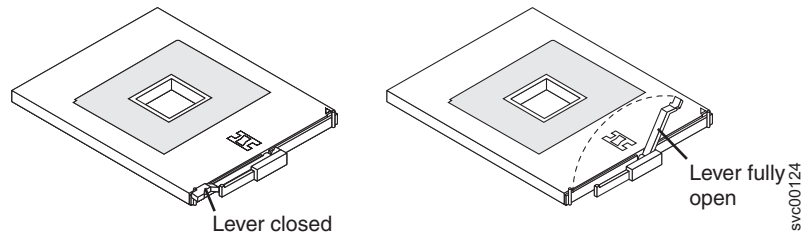

Figure 126. Microprocessor with arm locked and fully opened
7. Rotate the microprocessor socket lever arm upward to its maximum vertical position. See Figure 126 on page 343.